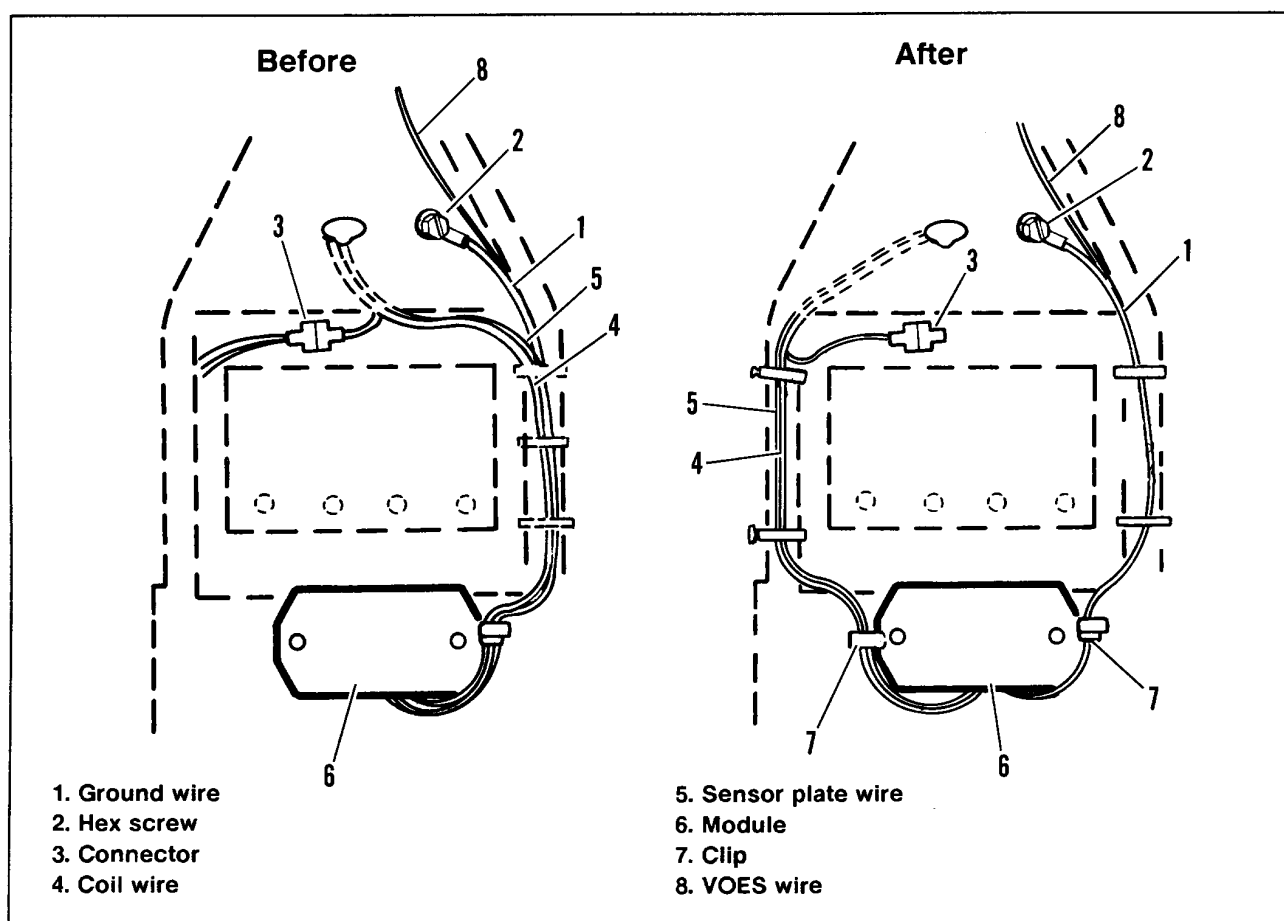

Figure 1. Module wiring
2. See Figure 1. (View Before). Detach module ground wire (1) from frame by removing hex screw (2). Remove screws attaching module to frame.
3. Separate two halves of connector (3).
4. See Figure 1. (View After). Move sensor plate wire (5) and coil wire (4) around to left side of frame, under the